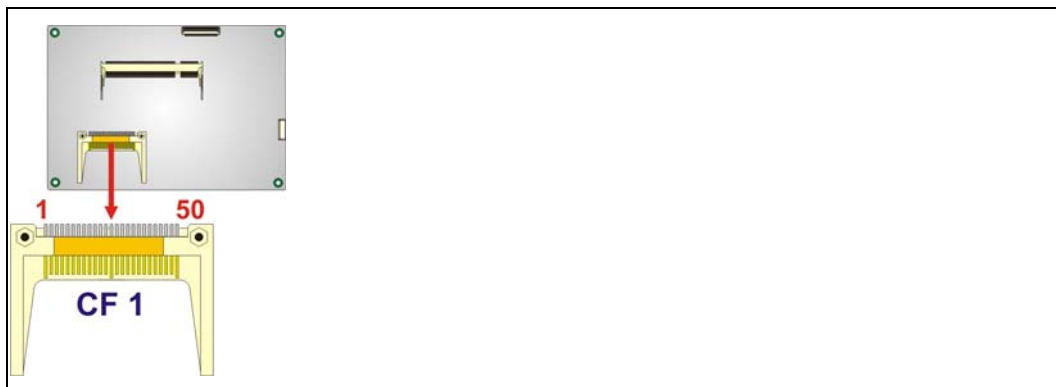

Figure 3-9: CF Card Socket Location
- CN Location:** See **Figure 3-9**